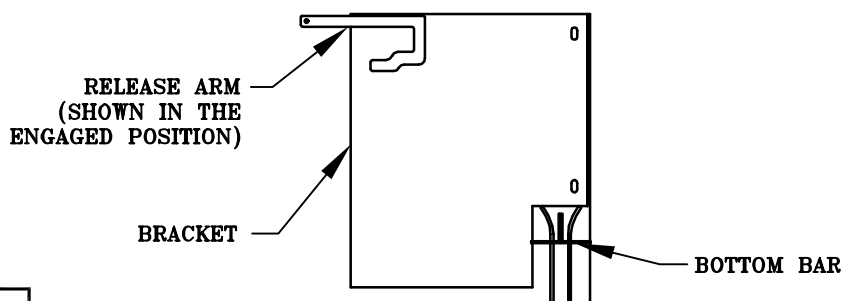

FIG 34
9. To reset the door, see reset instruction in FIG 34.
8. To reset the door, see reset instruction in FIG 34.